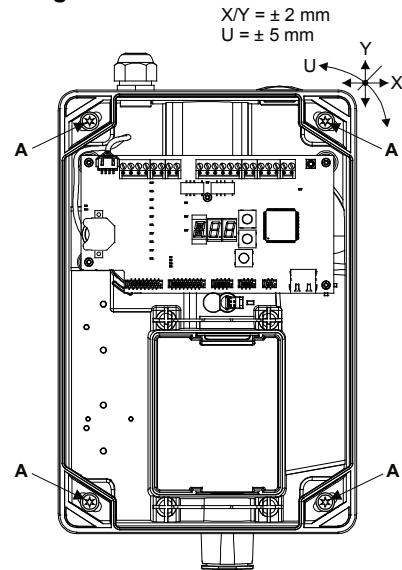

Fig. 2 Open, closing and securing the detector housing
- To actuate the **rotary snap locks**, **press them firmly** with the screwdriver towards the housing base and then **turn** through 90°. The position of the lock slit shows the current status (see **Fig. 2**):